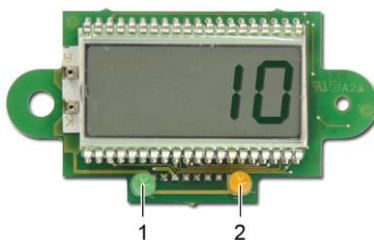

Figure 17
- Flip the maintenance switch (ref. 1) into the **CAL** (calibration) position: the yellow light (Figure 17, ref. 2) will be lit and the sensor will send a 2 mA current to the control unit (*Maintenance mode*).
- Flip the maintenance switch (rep. 1) into the **MES** (measure) position. The yellow light will turn off (Figure 17, rep. 2).